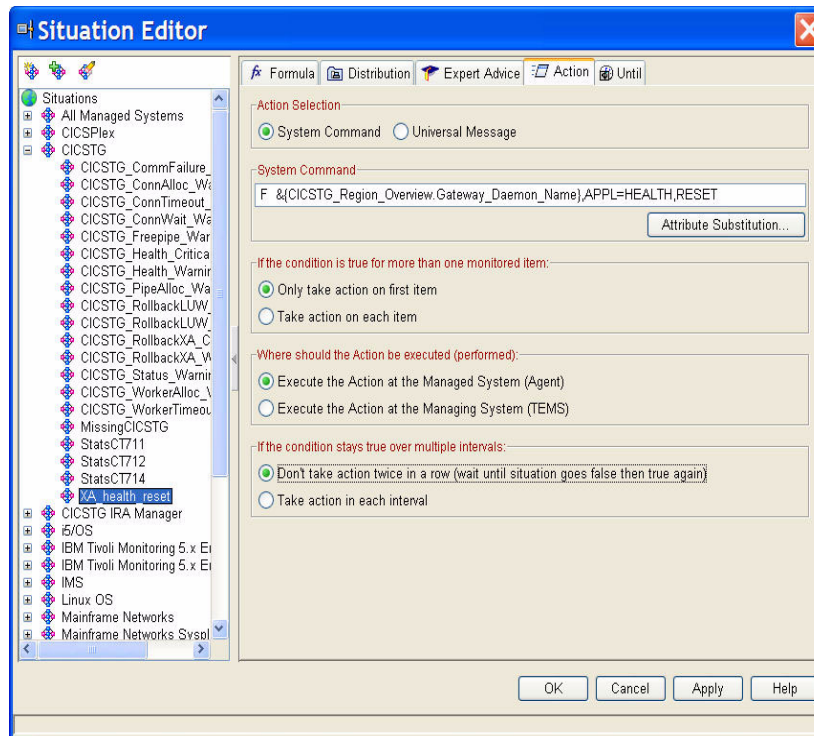

Figure 7-58 Action creation
5. We need to configure OMEGAMON XE to issue the MVS modify command when both conditions are satisfied. Click the **Action** tab and complete the form using the settings shown in Figure 7-58.